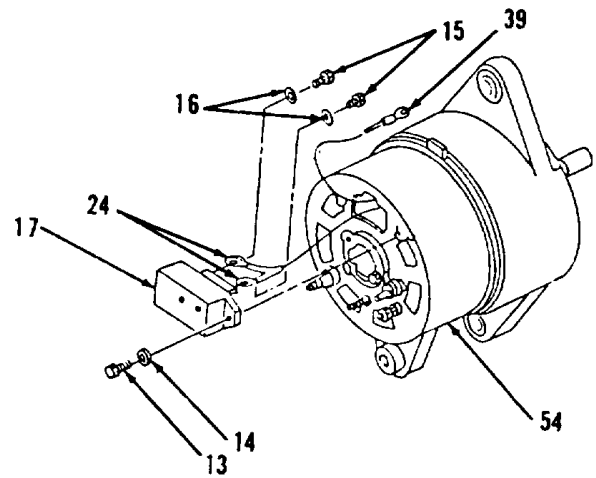

Figure 4-21.
8. Test regulator (17, Figure 4-21). Refer to Testing, step 4.
9. Remove two screws (13) and lockwashers (14).
10. Separate regulator (17) from frame (54) exposing field coil (24) wire assembly and diode assembly (39) wire assembly terminals.
11. Remove two screws (15) and lockwashers (16).
12. Disconnect field coil (24) wire assembly and diode assembly (39) wire assembly at terminals from regulator (17).
13. Remove regulator (17) from frame (54).